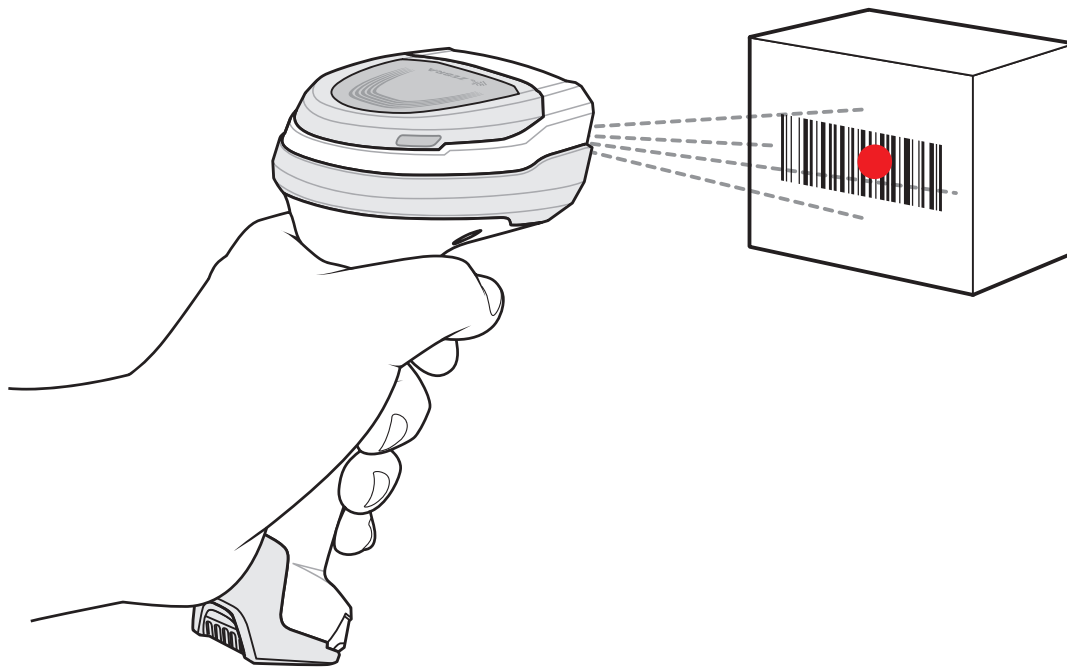
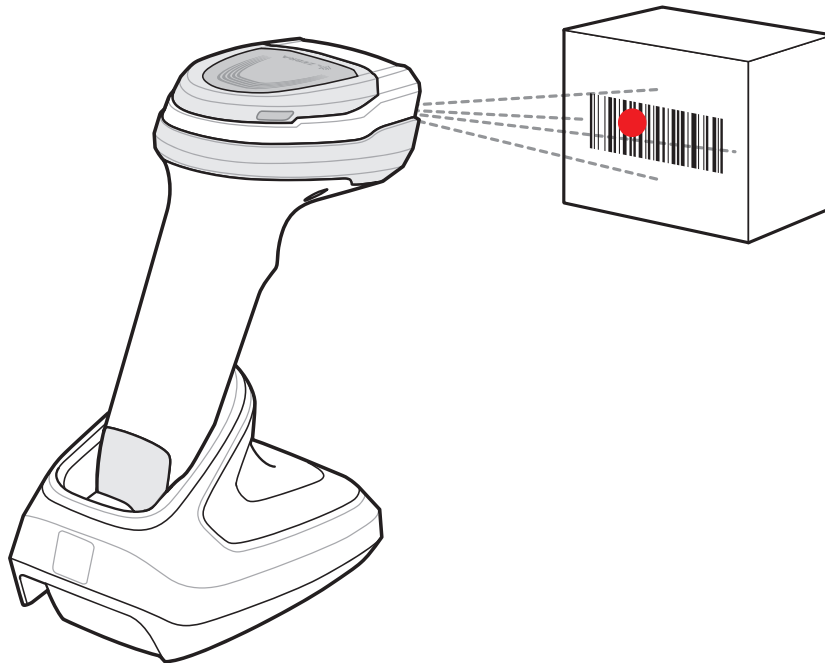

Figure 3-1 Scanning in Hand-Held Mode
Figure 3-2 Scanning in Hands-Free Mode
- ✓ **NOTE** The standard digital scanner emits a red illumination with a red aim dot (pictured in Figure 3-1 and Figure 3-2). The Healthcare configuration emits a white illumination with a green aim dot.